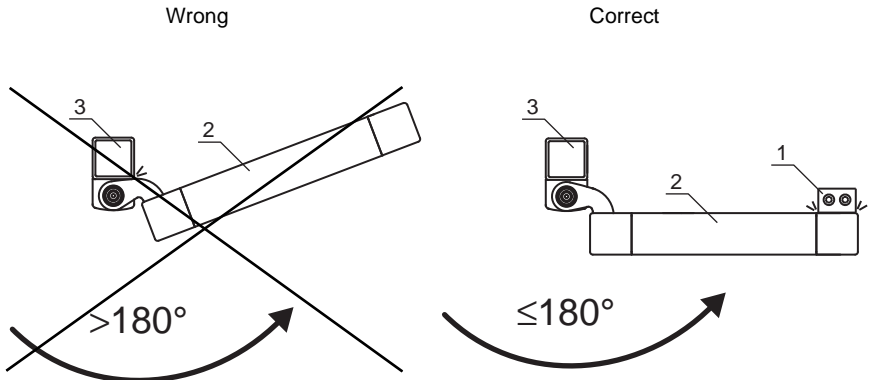

Figure 6.2: Mechanical limit stop (1) for the moving part of the protective device
- ↗ Use separate mechanical limit stop (see figure 6.2).